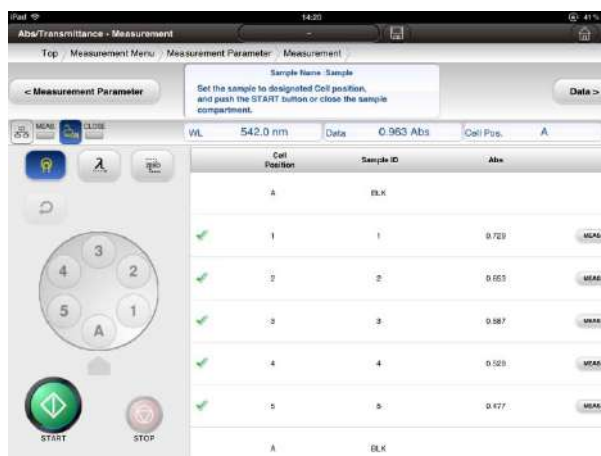

Fig. 4-40 Example of the Window After Measurement of the First Round of Samples
- (4) When 6 or a larger number is set for "number of samples," the measurement results of Sample 1 to 5 will be shown as in Fig. 4-40. Set the following sample according to the guidance. When the sample has been placed, press  [start button] icon. This will then begin measurement.